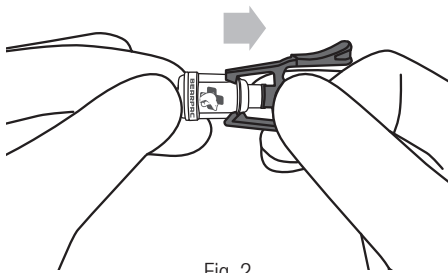

Fig. 2
11. Remove the plastic sheath from the catheter connector. While holding the catheter firmly, insert the (blue) male catheter connector on the end of the drainage line into the catheter valve until you hear or feel a connection (click). Gently pull back on drainage line to confirm the connection is secure. (Figure 2)